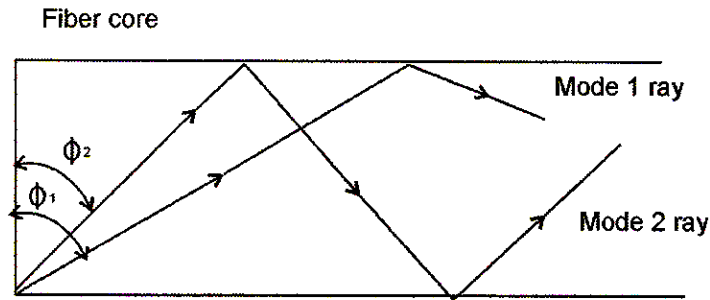
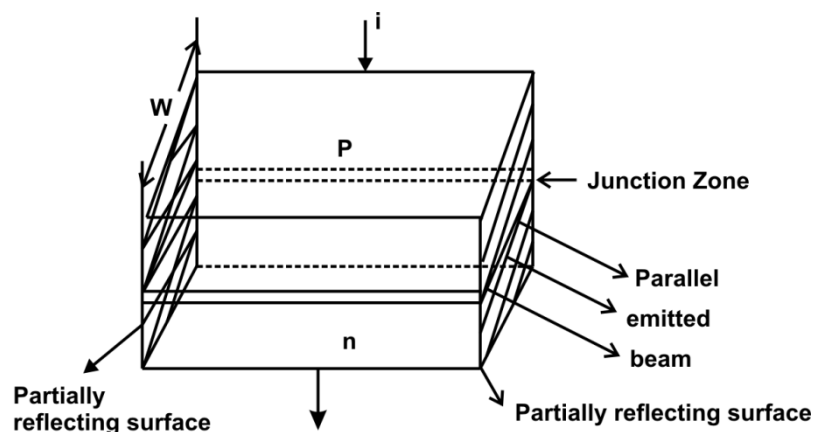

Fig. 14.7: Inter modal dispersion
Fig. 14.12: Semiconductor Laser Diode
- From figure 14.7, the pulse transmitted in the fibre propagates in different paths depending upon the modes. The received pulse in the other end of the fibre is the addition of rays arriving at different time intervals. The received pulses are called the modal pulses. The received pulse therefore spreads out giving rise to dispersion.
- In the figure 14.7, the mode 2 ray travels along the longer path than compared to mode 1. Hence, the mode 2 ray will reach the other end other end of the fibre with a small delay compared to mode 1 ray. The delay in the rays gives rise to dispersion as shown in figure 14.12.
density of photons increases to such a level that they collide with the excited minority carriers giving rise to a process called the stimulation emission in which two photons are liberated instead of one. Both the photons have same frequency and energy level. This laser action is further enhanced by placing the reflection surfaces on either sides of the junction as shown in figure 14.12.